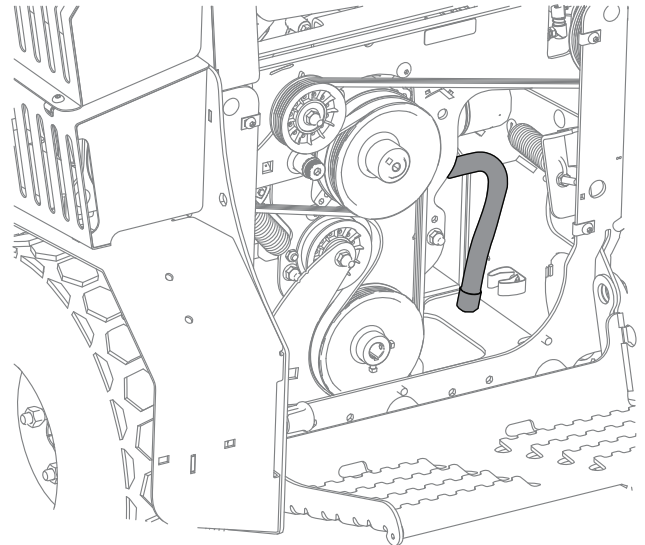

Figure 32
4. Place the hose in the hex hole in the frame of the machine (Figure 32).